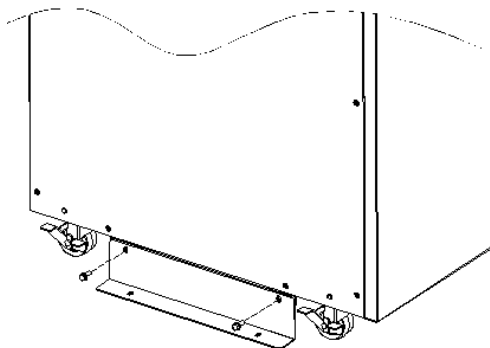

Fig. 4-5 Additional stability
- 4) The additional side mounting brackets (optional accessory) can be fixed to obtain greater stability of the UPS enclosure. See Fig. 4-5.